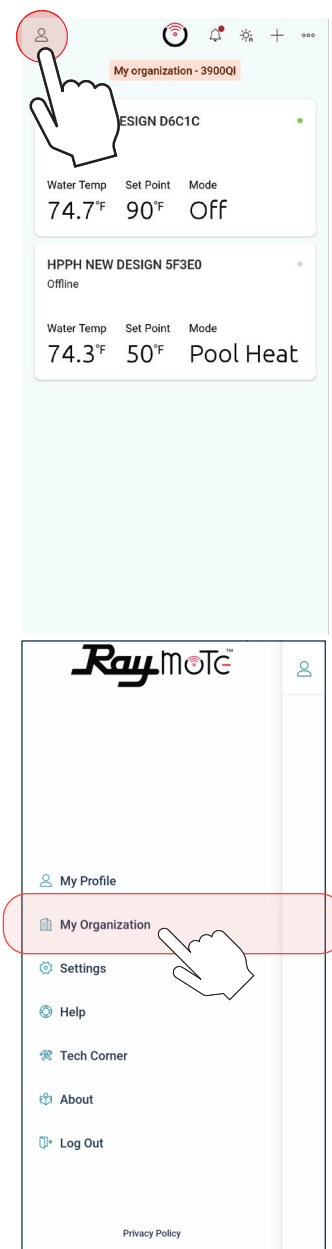

Figure 111. Select Organization Option
3. Then, select "My Organization" option. See **Figure 111**.